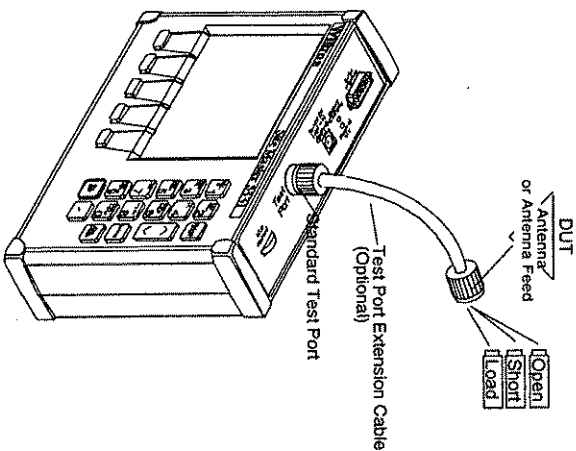

Figure 2-9. Measurement Calibration Test Setup
“Connect LOAD, Press ENTER” instructions that appear in the message area. Connect the respective Open, Short, and Load component to the end of the Test Port Extension Cable (Figure 2-9) prior to pressing ENTER.
- Step 7. Perform a measurement calibration, using the START CAL key. Select CAL A or CAL B. Follow the ensuing "Connect OPEN, Press ENTER," "Connect SHORT, Press ENTER," and "Connect LOAD, Press ENTER" instructions that appear in the message area. Connect the respective Open, Short, and Load component to the end of the Test Port Extension Cable (Figure 2-9, page 2-24) prior to pressing ENTER.